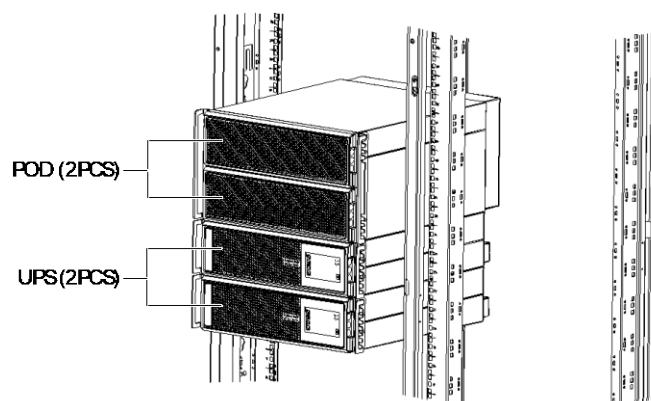

Figure 3-1 1 + 1 parallel system installation
2. As shown in Figure 3-1, the UPS should be installed at the bottom; and the 1 + 1 parallel POD should be installed on the top to facilitate the cable connection and operation. The installation method of 1 + 1 parallel POD is the same as that of the UPS.